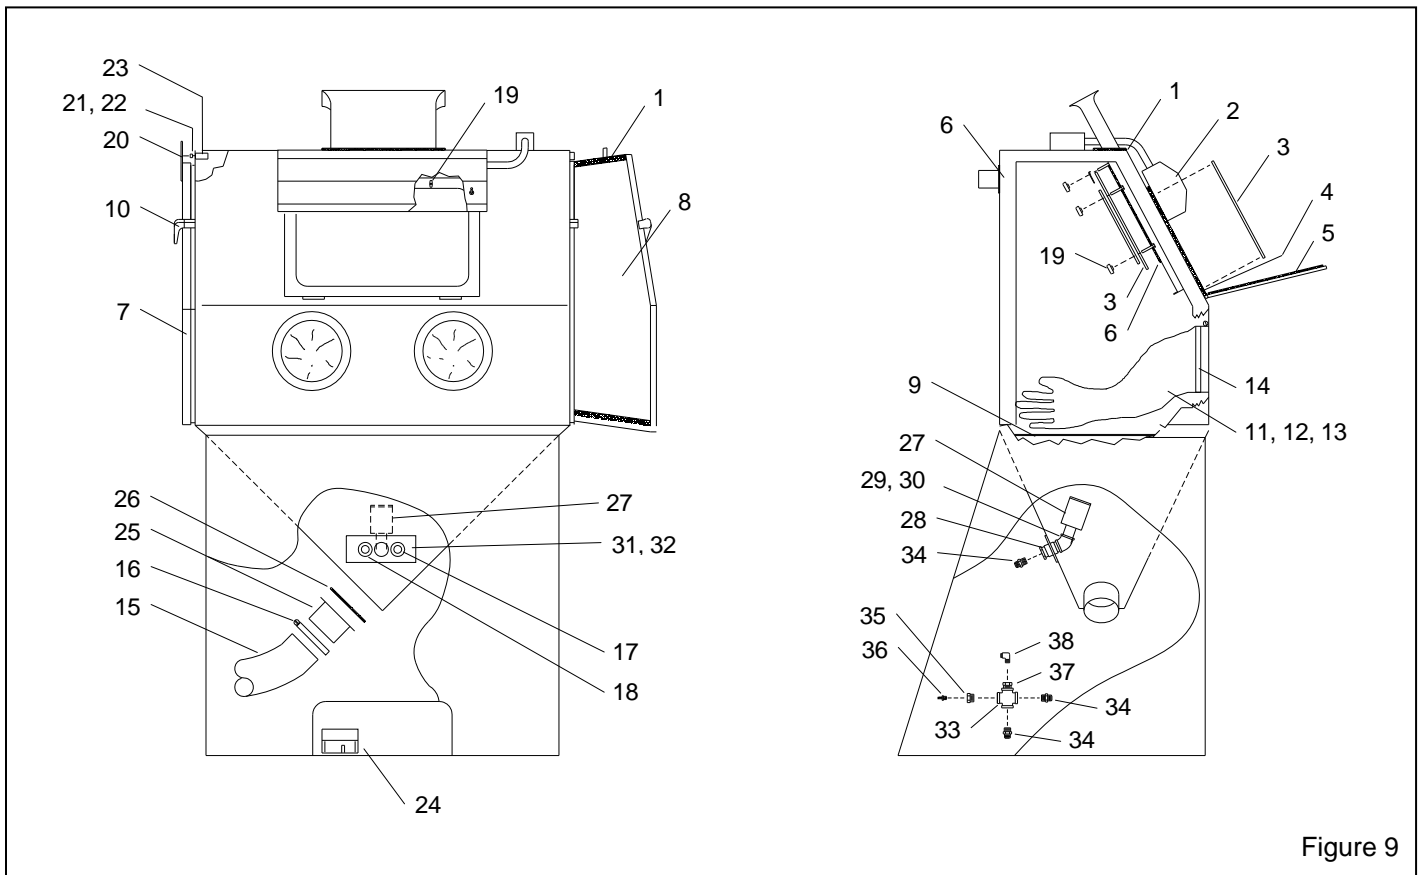

Figure 9
**8.10.1** Inspect the exhaust hose and outlet muffler for blockage. The muffler (Item 27, Figure 9) is located on the inside of the cabinet hopper.
9.2 Cabinet Replacement Parts, Figure 9